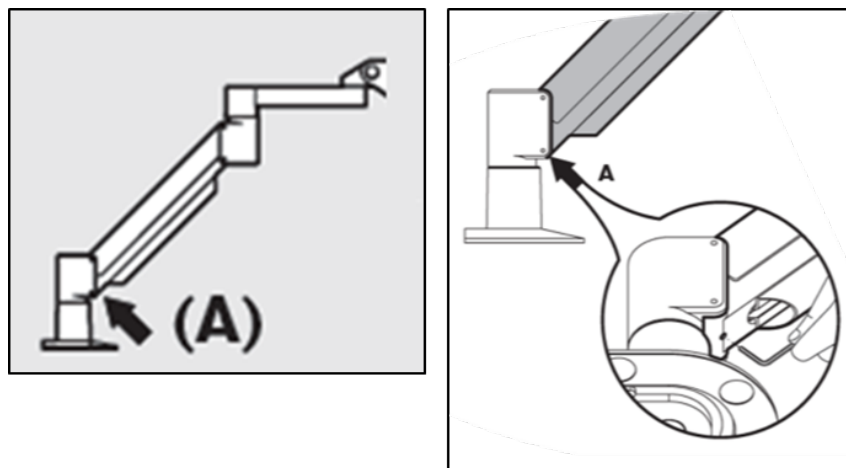

Figure 4-5. Loosen Counterbalance Set Screw A
- If the arm drifts downward, lift the arm to the top of its range and loosen Counterbalance Set Screw A by turning the screw at least a ½ turn. Use a 3/32 Allen Wrench. See Figure 4-5.
- Raise the arm to the highest position and tighten **Counterbalance Set Screw A** until contact is made, then tighten ½ to ¾ max revolutions. See Figure 4-5.